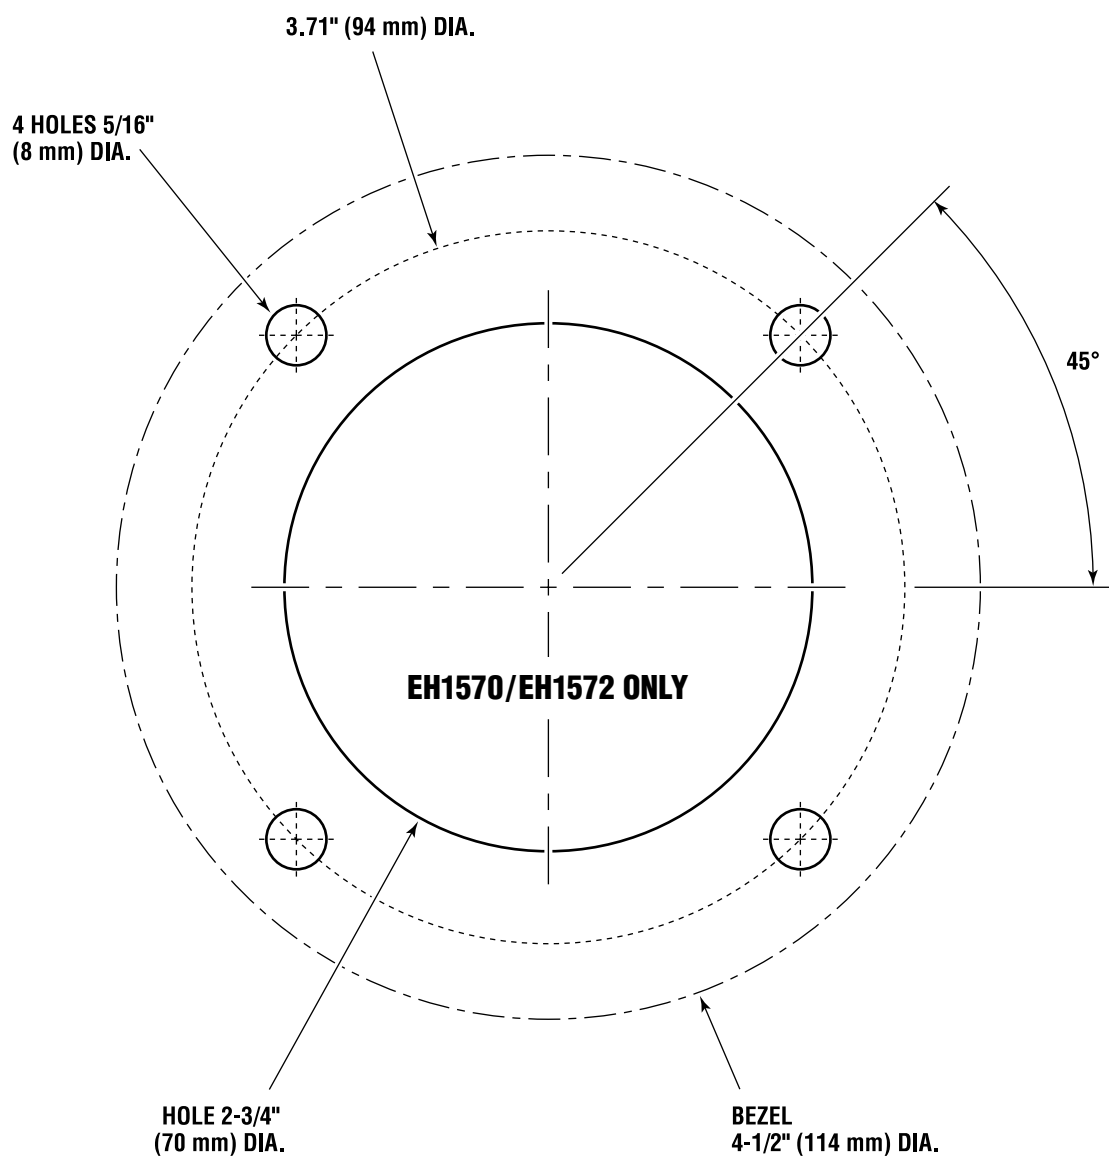

Figure A-4.
**This template to be used for EH1592 ONLY. See figure A-4 on page A-7 for EH1570 and EH1572 template.**